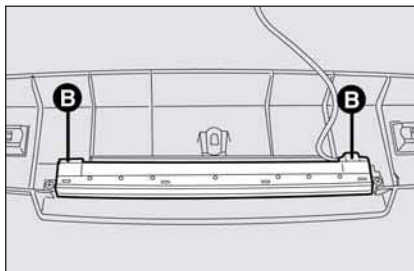

fig. 34
- press catches **B**-fig. 34 and remove the bulb holder;
- refit the bulb holder making sure catches **B**-fig. 34 click into place.